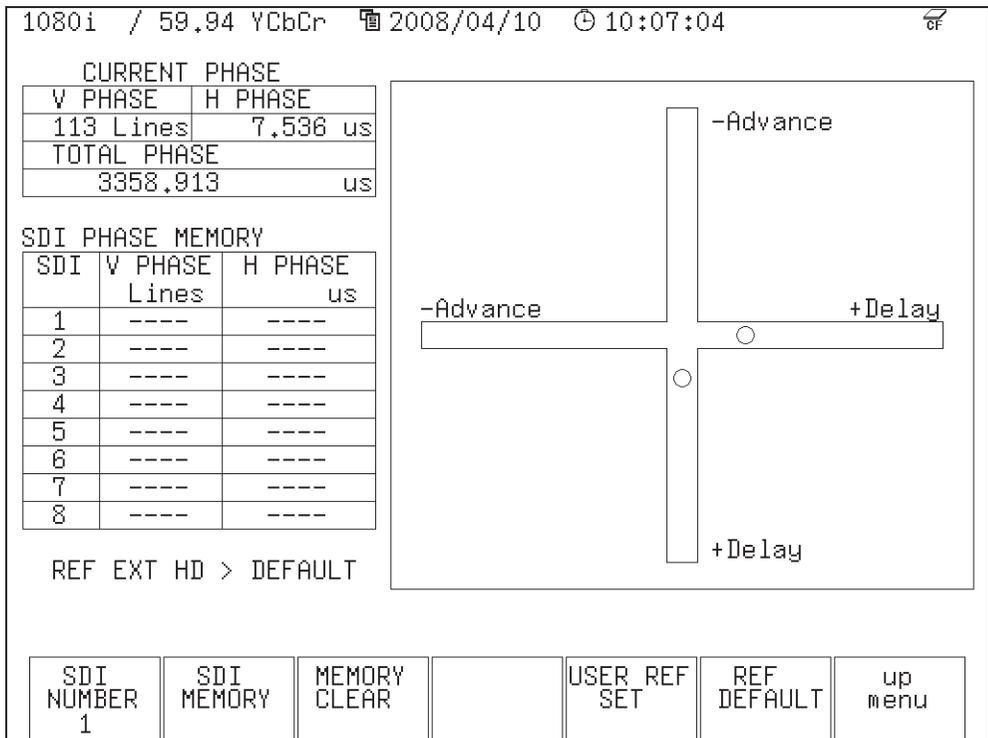

Figure 15.2 SDI-EXT REF phase display and function menu
- (1) The phase difference between the SDI and EXT REF signals that are currently applied is shown numerically in the CURRENT PHASE section on the left side of the display shown in Figure 15.2. In the TOTAL PHASE item, the phase difference is displayed as time of total.
- (2) The graph on the right shows the line difference in the V direction along the vertical axis, and the time difference in the H direction along the horizontal axis. The phase difference is zero when the two circles that indicate the V and H phase differences overlap at the center.
- (3) The default zero reference on the SDI-EXT REF phase display is defined on the condition that the SDI output of the LEADER's LT 443D MULTIFORMAT VIDEO GENERATOR and the REF B. B signal with no timing offset are connected to the LV 5750 with cables of equal length.
- (4) Pressing the USER REF SET key sets the phase difference between the SDI and EXT REF signals that are being applied to zero. This function allows the reference to be set arbitrarily to match your system environment.